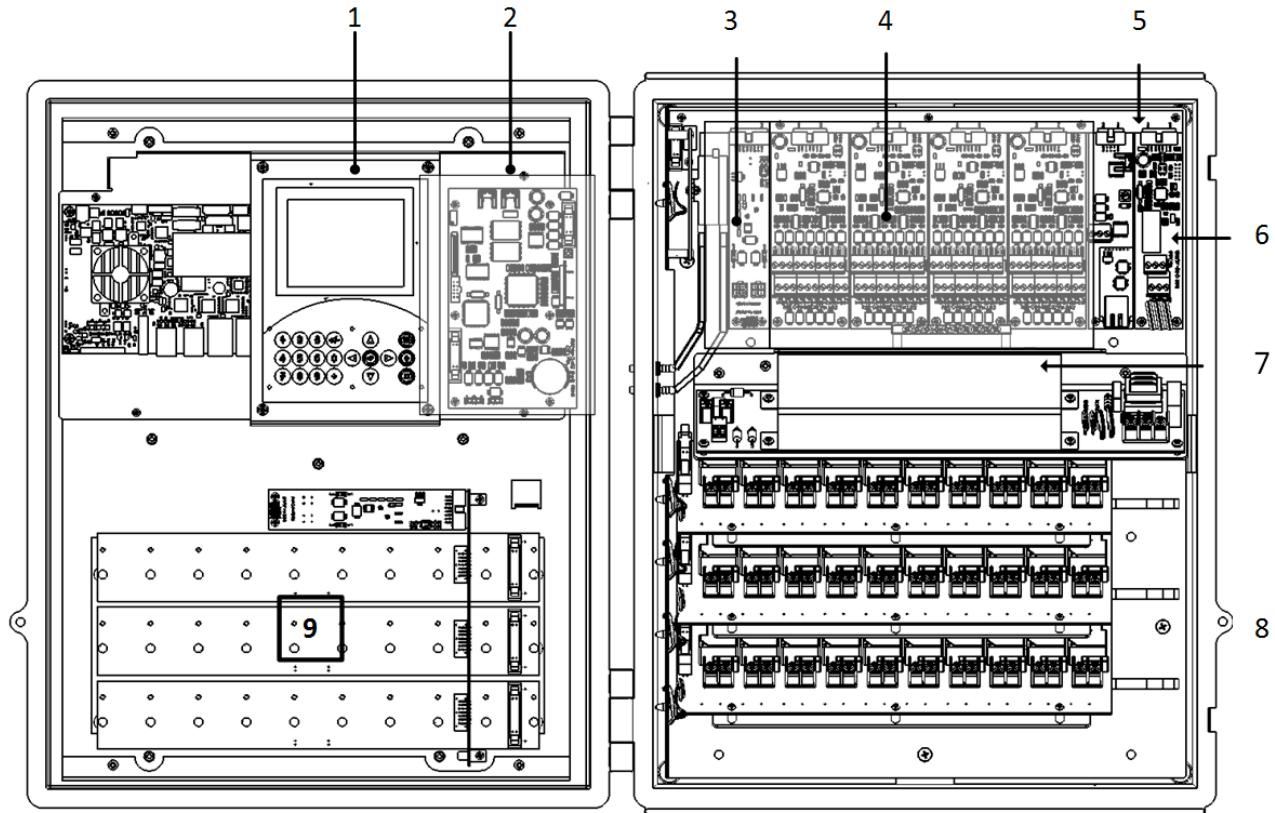
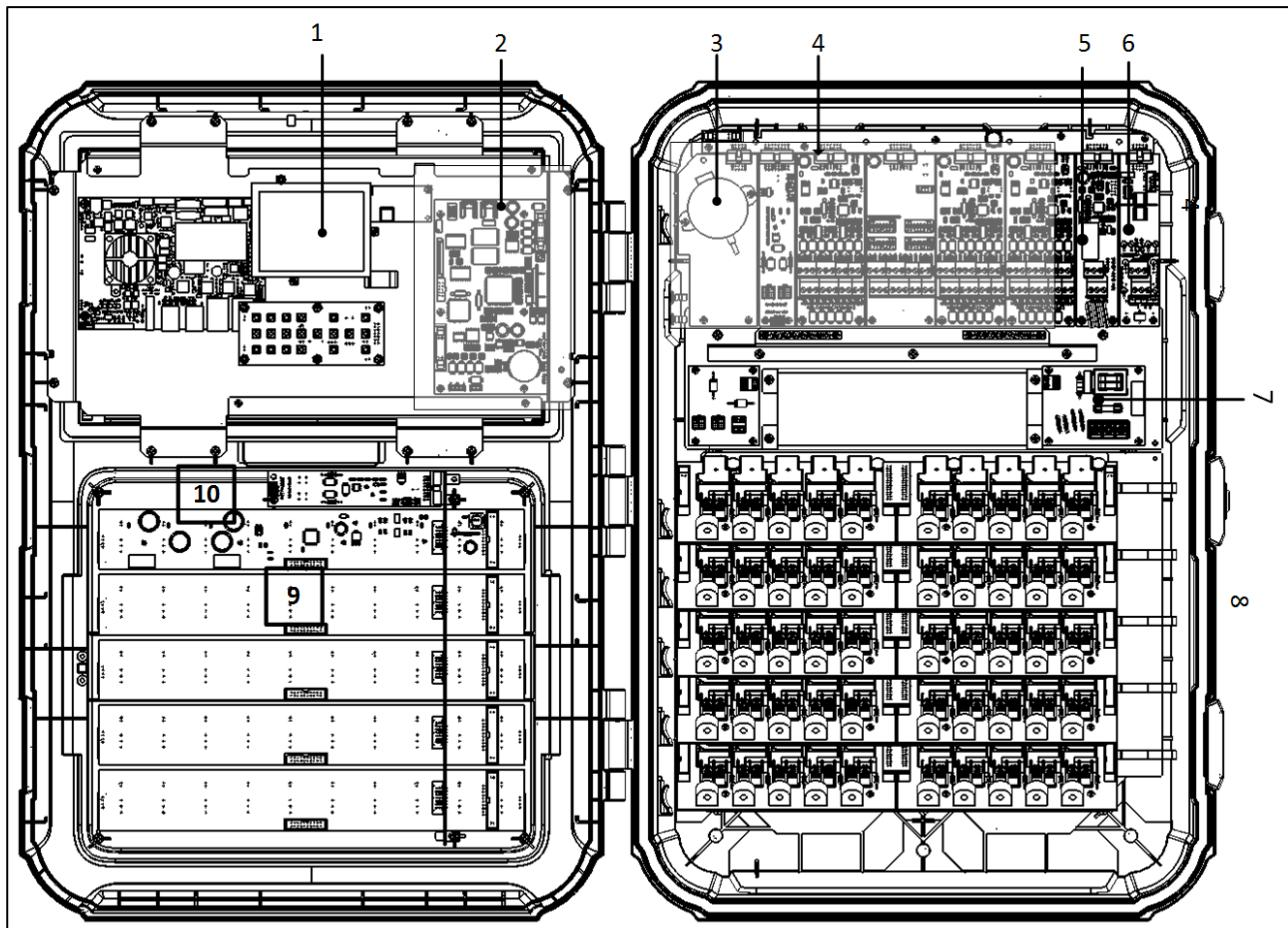

Figure 3: Platinum Pro /Platinum Touch Layout
Figure 4: Rotem Pro /Rotem One Layout
Figure 3 key
Figure 4 key
NOTE Figure 3 and Figure 4 are example layouts. Each installation can differ.
- Normally Open (only) sets include ten relays: Two (2) 5 x Normally Open relay cards along with a 10 relay switch card.
- One 5 x Normally Closed relay card. This card must be installed on the left side of the unit. See Figure 4.